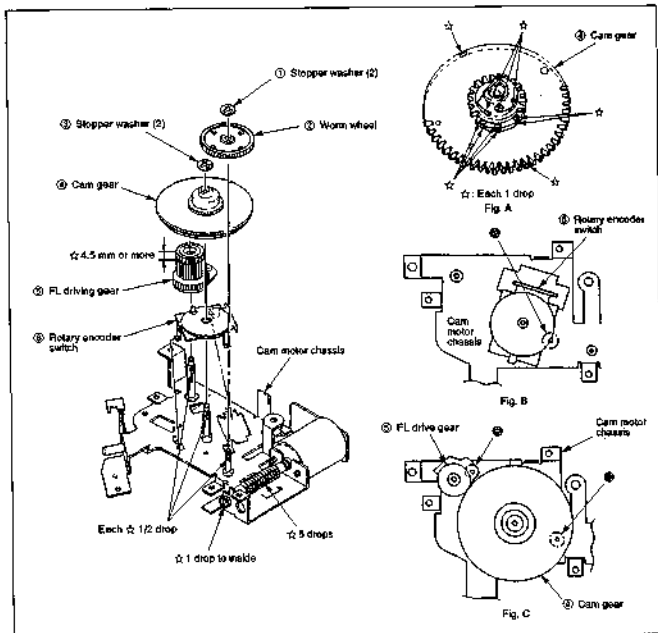

Fig. 3-19
3-17. ROTARY ENCODER SWITCH (Fig. 3-19)
- Apply FLOIL SG-055C (Jig Ref. No. J-12) to ☆ marked portions. (Fig. 3-19, A)
- Adjust the hole ⑦ to the hole on cam motor chassis. (Fig. B)
- Adjust the holes ⑧ and ⑨ to the hole on cam motor chassis. (Fig. C)